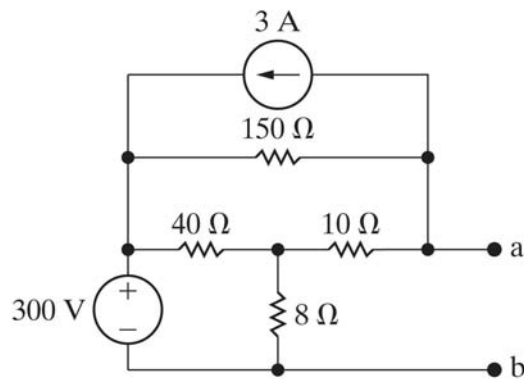

Figure 6
3. Find the Thévenin equivalent with respect to the terminals a, b in the circuit in Fig. 6.